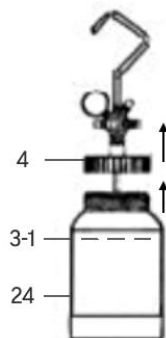

Fig. 3
1. Unscrew and remove the cover (#4) from the canister (#24) (Fig. 3).